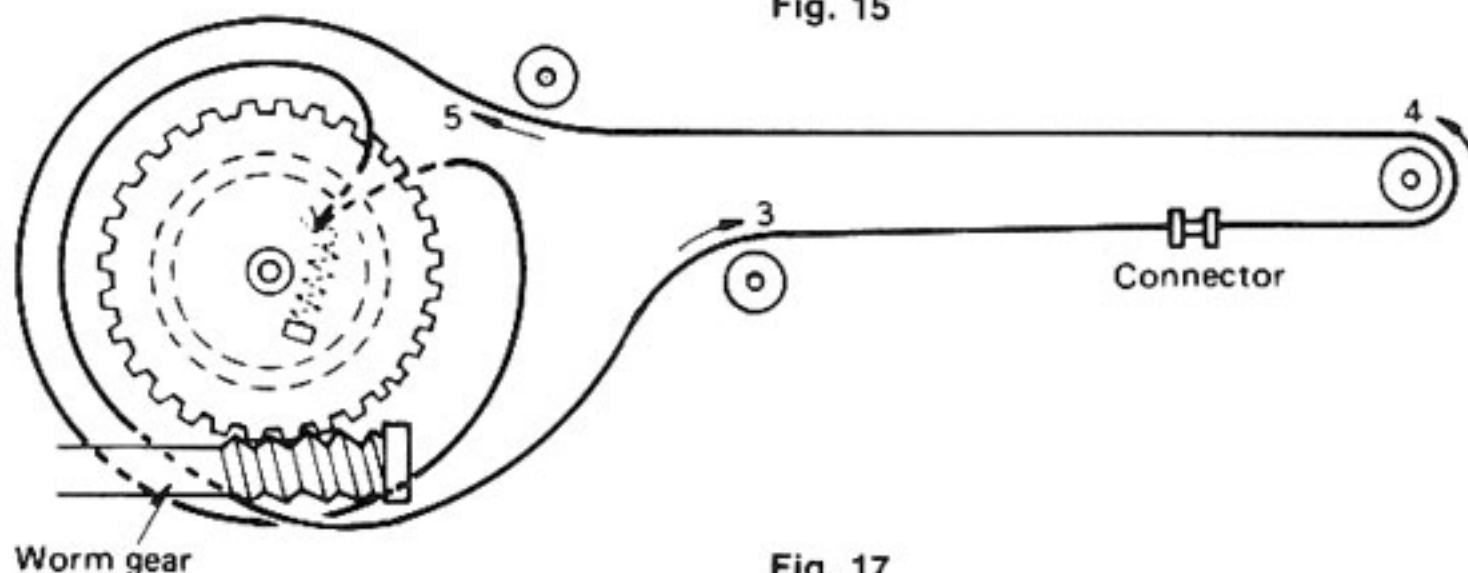

Fig. 17
5. Holding the rope set over the arm drive wheel with the hand, set the rope over the wheels in the order of 3 ~ 5 in Fig. 17.
7. Rotate the worm gear by hand and check that the tonearm operates, and then fit the washer (44) and "C" ring (43) in place.